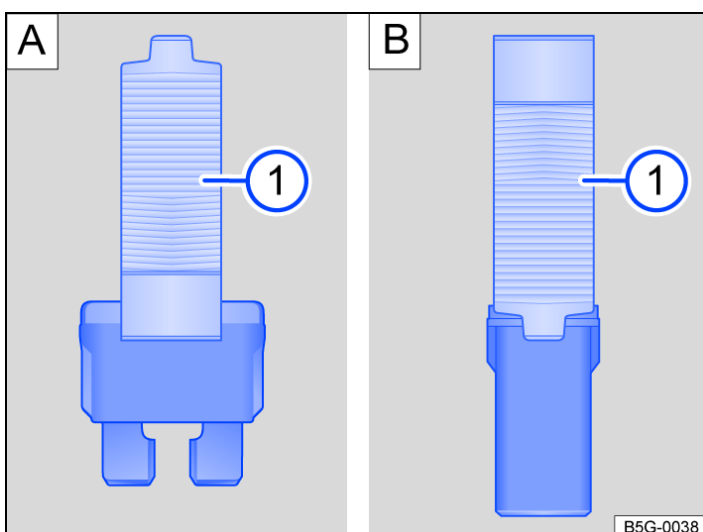

Fig. 2 Removing or inserting fuse with plastic pliers (illustration).
- Use plastic pliers suitable for the fuse design. Slide them onto the fuse from the side → Fig. 2 A ¹ or → Fig. 2 B ¹.